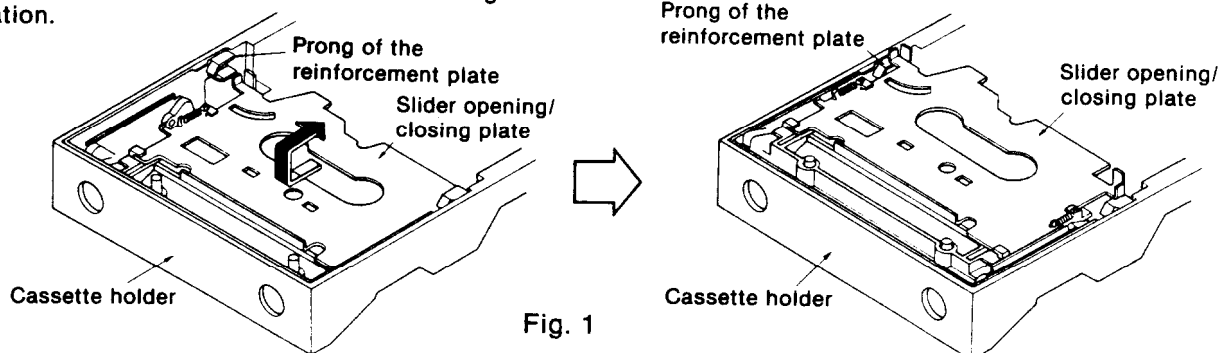

Fig. 1
- (2) Open the cassette holder.
- (3) Move the slider opening/closing plate of the removed loading unit in the direction indicated by the arrow in Fig. 1, and hook it above the prong of the reinforcement plate.